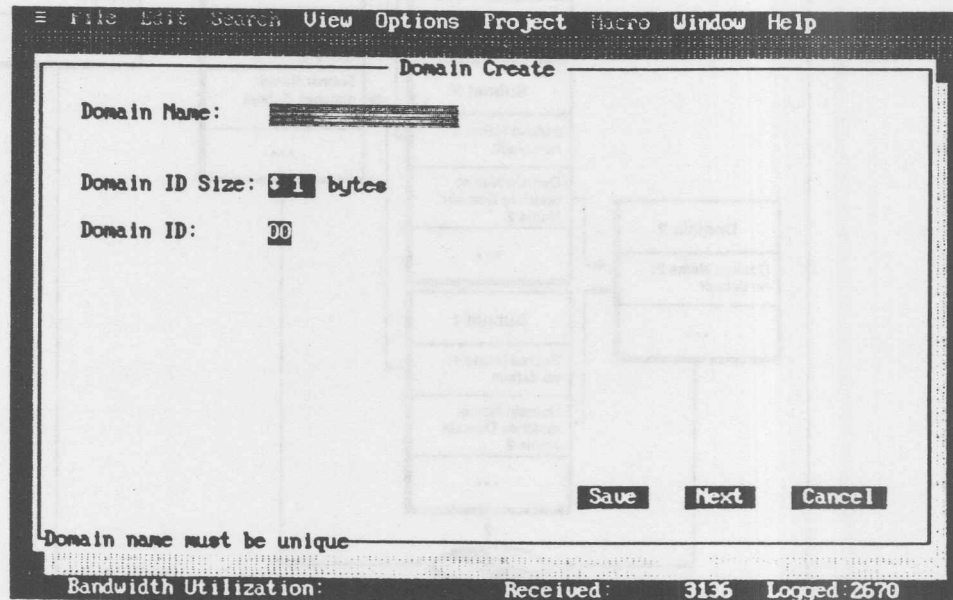

Figure 10-6. Domain Create Window
- 4 Select the **Create** command button to open the Domain Create window (see figure 10-6).